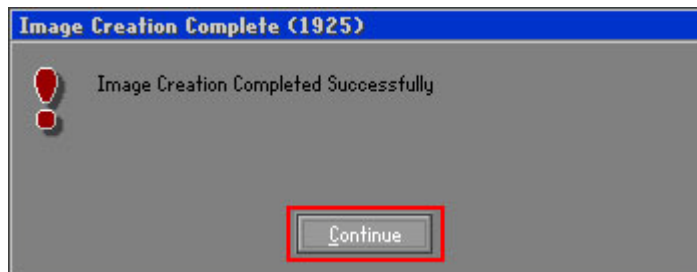

Figure B-20: Image Creation Complete
Step 11: When the image creation completes, a screen prompts as shown in **Figure B-20**. Click **Continue** and close the Ghost window to exit the program.